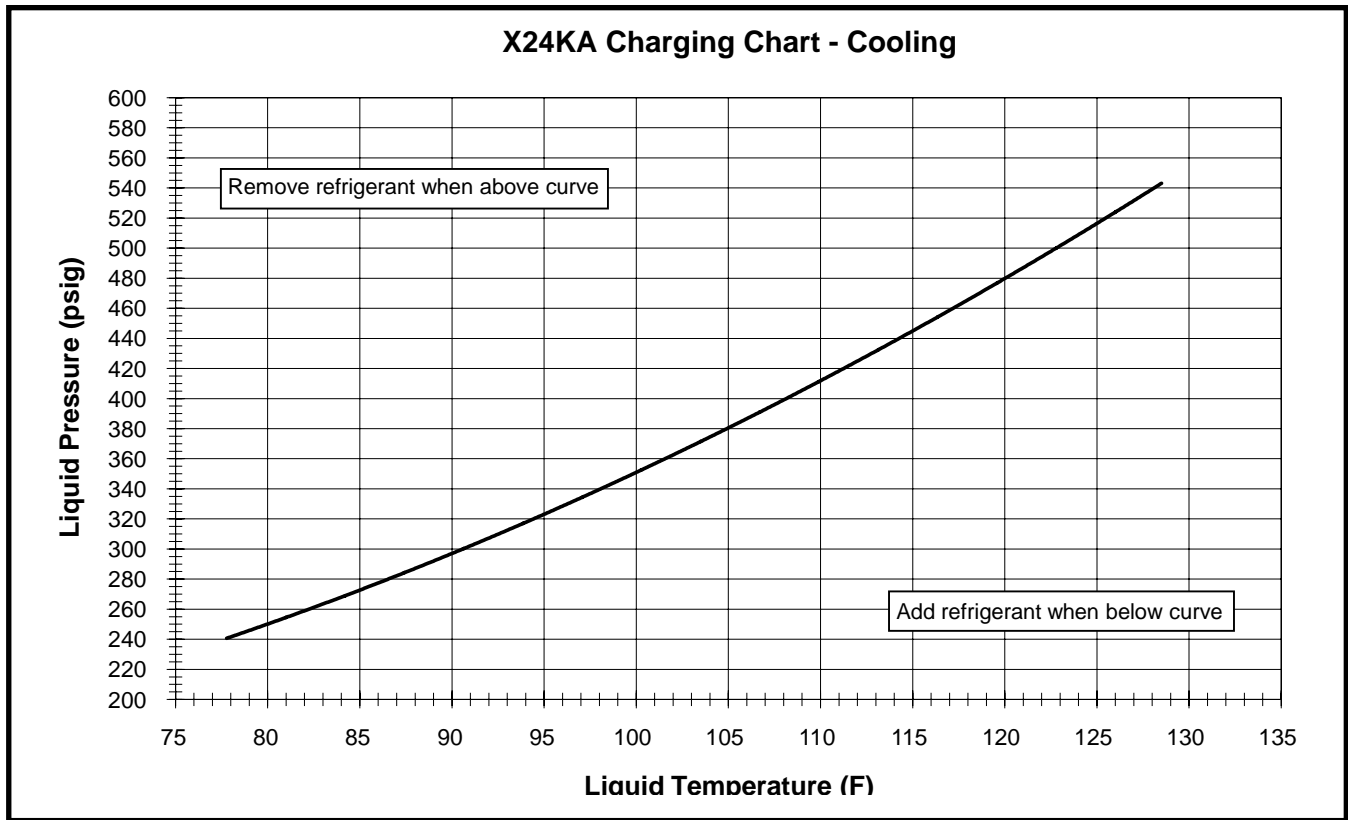

Figure 8. Charging Chart for 2 ton Units
3. For the temperature measured, determine the required liquid refrigerant pressure from your units label or charging charts (Figures 8 - 11, pages 13 - 14).